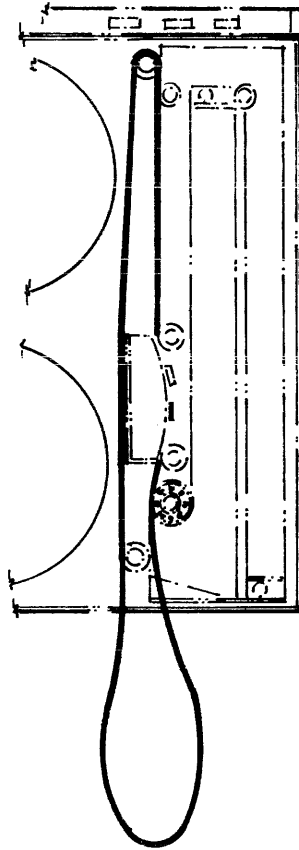

Figure 48. Mounting the Tape Loop
1. Ensure that the source vacuum has been set up as described in section 14.1 before making this adjustment. Thread a continuous loop of standard tape (106.25 inches in circumference) around the tape path as shown in Figure 48. This loop can be made up by cutting a piece of tape 106.25 inches long and splicing the two ends together.